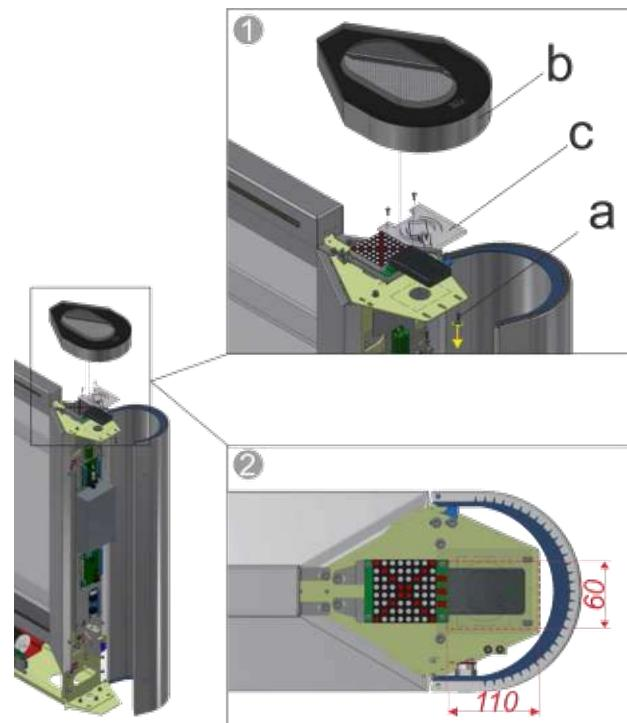

Fig.20 – Installation of card reader
5 - The readers to be installed (see fig.20);
*(*supplied by order for a fee)*, upon availability of access control system (ACS) (Fig.20).